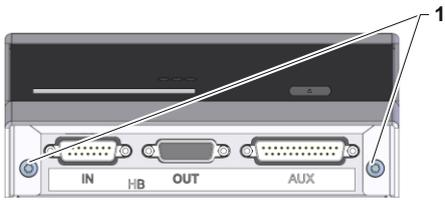

Fig. 4: Front side of the evaluation unit
- Attach screws (Label 1 → Fig. 4).